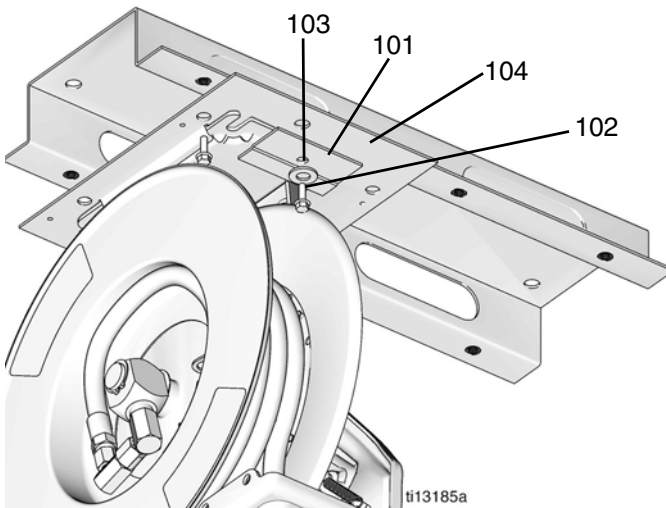
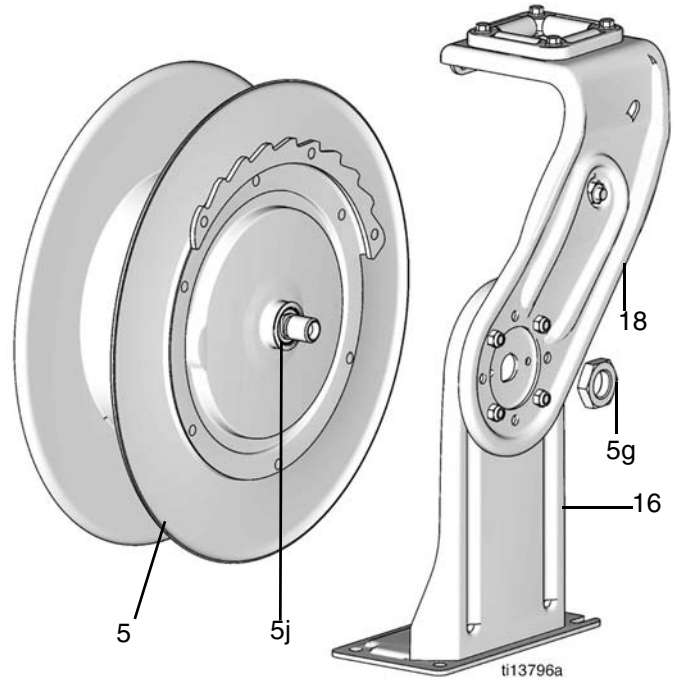
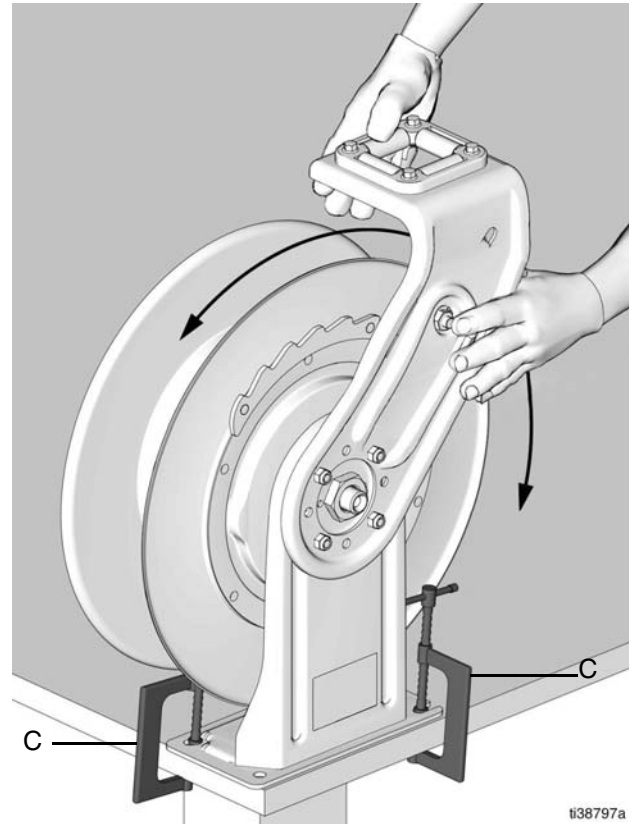

FIG. 16
FIG. 17
FIG. 18
NOTE: The reference letters in the following instructions refer to FIG. 16, FIG. 17 and FIG. 18.
2. Remove the cap screw (102), washer (103), and the hold-down plate (101).
3. Slide the hose reel out of the base plate (104) (FIG. 16).
4. Secure the reel to a solid surface with C-clamps (C) (FIG. 18).